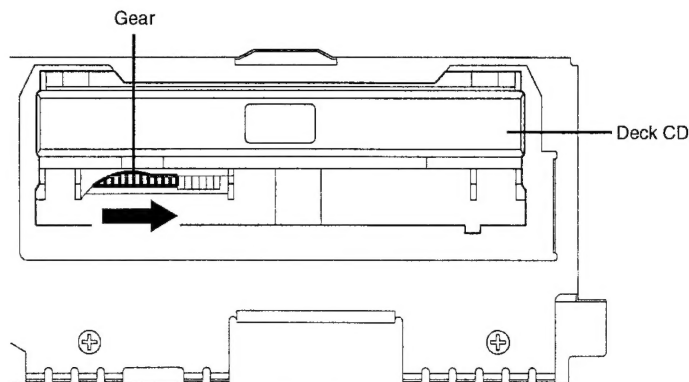

Fig. 3
1. Remove the Top Cabinet and Front Cabinet. (Refer to item 1 of the **DISASSEMBLY INSTRUCTIONS**.)
2. Rotate the gear of Deck CD section in the direction of the arrow by hand, remove the disc from Deck CD. (Refer to Fig. 3)